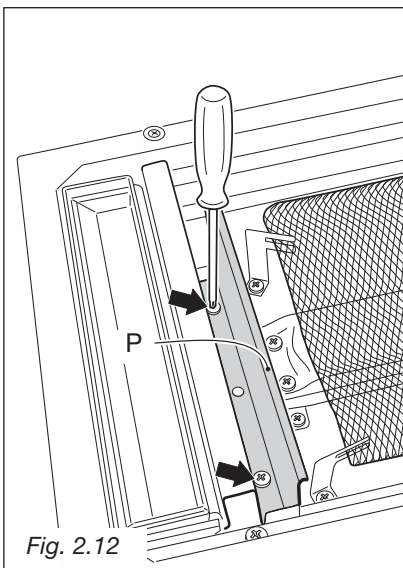

Fig. 2.12
- Unscrew the no. 2 (two) screws and remove the shield "P" (fig. 2.12).